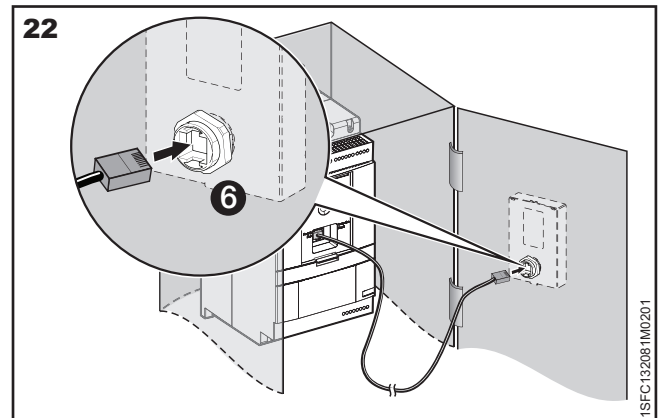

Figure 22: Connect the other end of the network cable
4. Connect the other end of the network cable to the network port on the back of the detachable HMI, see ⑥ in **Figure 22**.